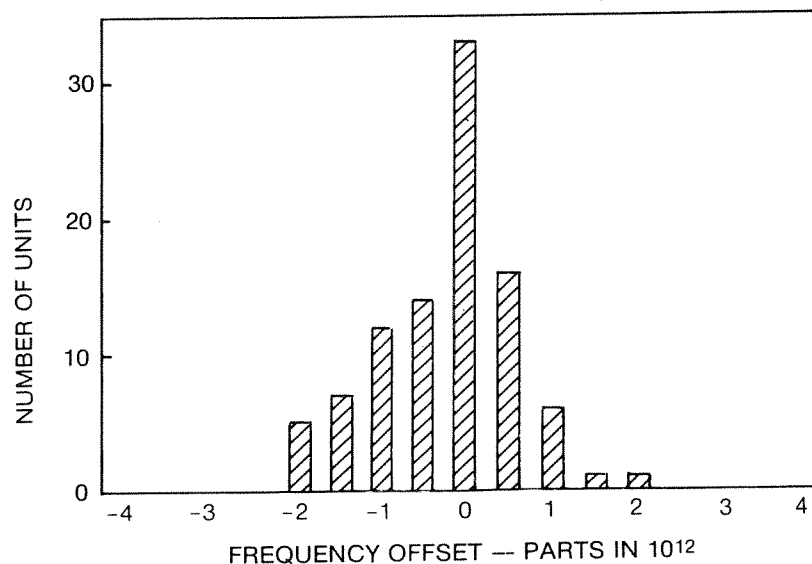

Figure 1-2. Frequency of Independently Aligned 5061A
- (1) See definitions, page 1-5
- (2) See Figure 1-2
- (3) With 10638A Degausser
- (4) Use 60 second time constant for increased short-term stability in controlled environments.
- (5) Over any $\pm 2.5^\circ\text{C}$ Range at any temperature between 15 and 35°C
- (6) With degaussing — Retrace is less than $\pm 2 \times 10^{-12}$ without degaussing
- (7) For values of $\tau(s) > 10^4$ seconds, instruments are not subjected to frequency stability testing on a regular basis. This portion of the curve (i.e., $\tau(s) > 10^4$ seconds) provides information useful in formulating applications for the HP 5061B.
<p>Intrinsic Reproducibility</p> <p>The intrinsic reproducibility of the 5061B (see Figure 1-2) is the measure of the repeatability from one independently aligned unit to another. The small spread indicates that any HP 5061B with an Option 004 High Performance Tube will produce a frequency within $\pm 3 \times 10^{-12}$ without calibration. The data was</p>	<p>See "Statistics of Atomic Frequency Standards" by David W. Allan, Proceedings of IEEE, Feb. 1966. P. 221, and HP Application Note 116 for measurement details.</p>